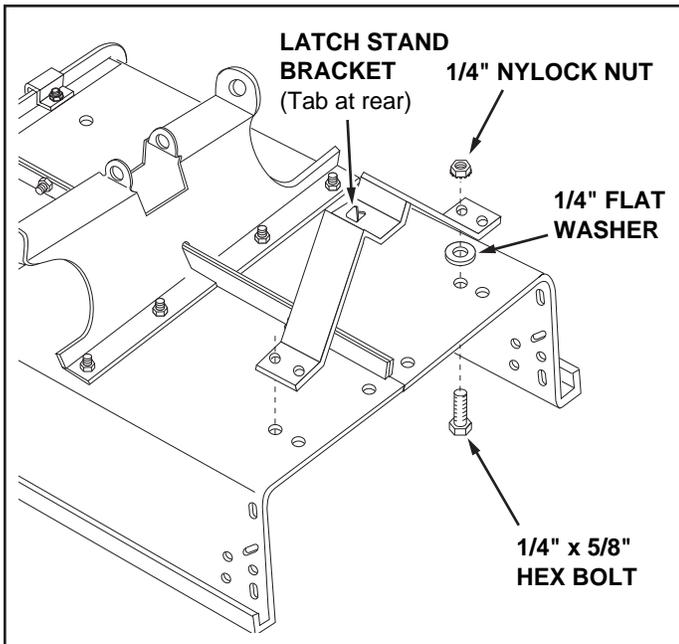

FIGURE 5
8. To prevent accidental tipping during the following assembly procedures, lower the cart to rest upside down, with the wheel support facing up, as shown in figure 5.
9. Align the latch stand bracket so that the tab is at the rear. Fasten the bracket to the rear set of holes at the front of the cart using two 1/4" x 5/8" hex bolts, 1/4" flat washers and 1/4" nylock nuts. Use the 1/4" flat washers as shims between the bracket and the cart bed. **Make finger tight.** See figure 5.
19. **Tighten** the two bolts that you assembled to the latch stand bracket in figure 5.